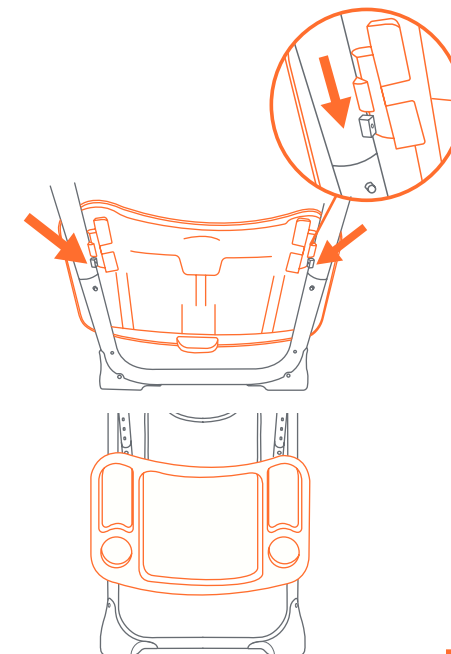

Fig. 9
- The Tray may be stored on the back legs of the High Chair. Align the holes in the rear of the tray with the small pegs on the back legs (Fig. 9). **NOTE:** To remove, lift the tray.